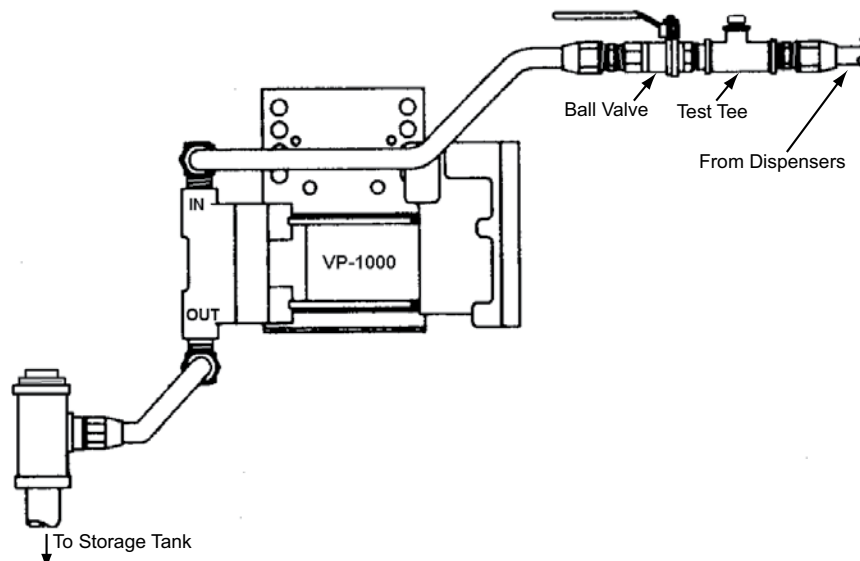

Figure 7: Vapor Piping Inlet/Outlet Configurations
- Inlet piping must contain a test port and ball valve in the order shown in Figure 7.